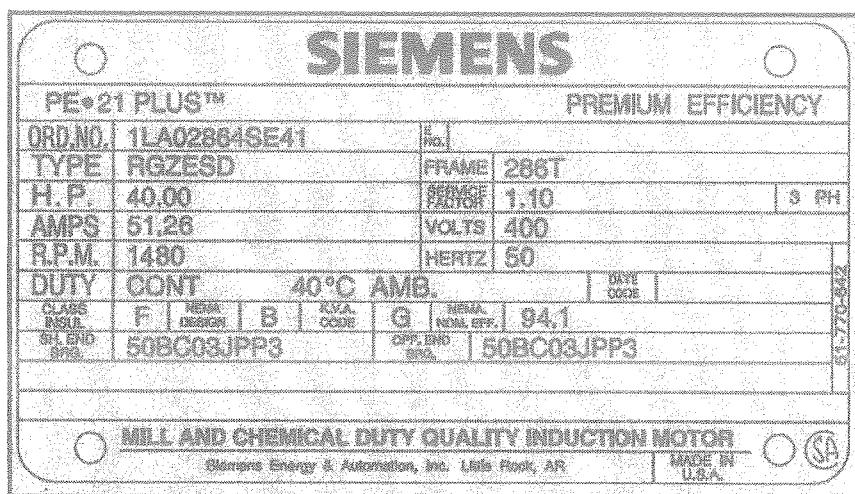

Figure Q3
- c) Consider the motor nameplate shown in Figure Q3.
- c) The 3-phase induction motor with the nameplate shown in Figure Q3 is used to drive a load having a linear rising torque speed characteristic. V/f controlling method is used for motor controlling. Under rated voltage and rated frequency motor runs at 1482 rpm with a torque of 154 Nm. Calculate the required supply frequency and supply voltage to the motor for each of the following operating condition. State any assumption you make.